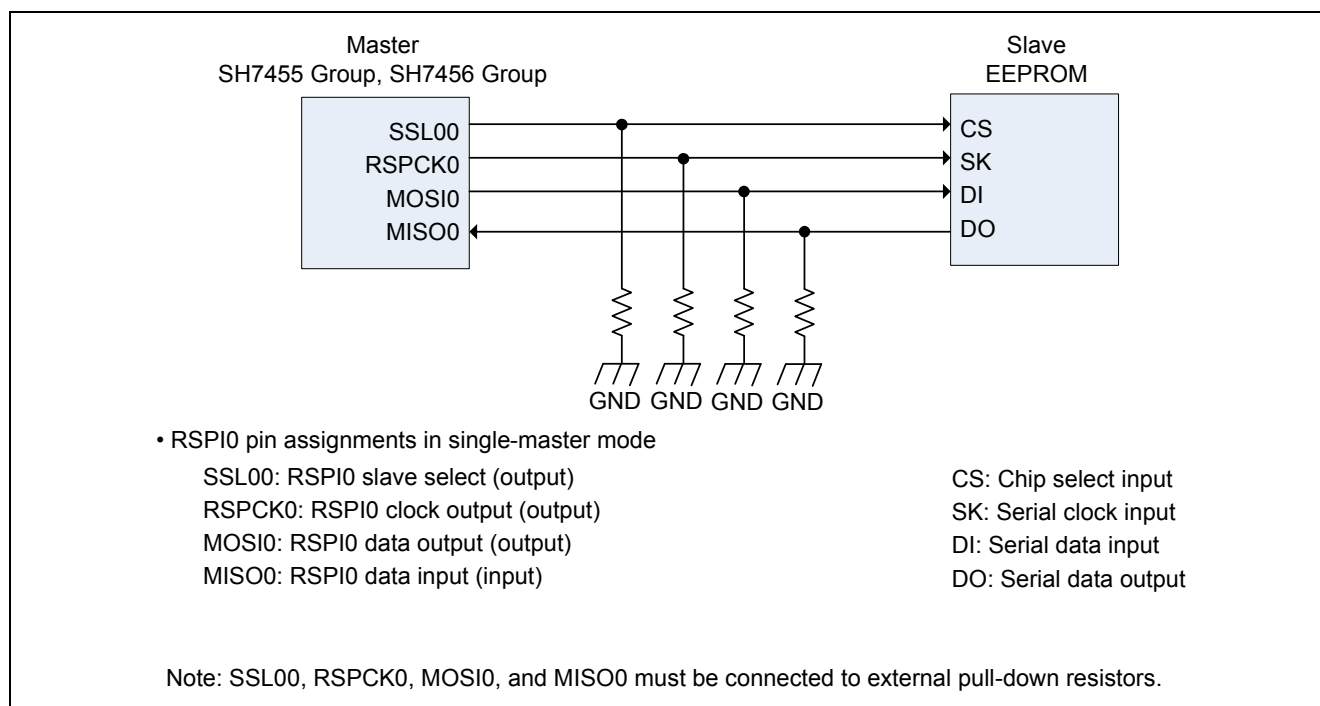

Figure 1.1 RSPI and EEPROM Connection Example
- The RSPI of the SH7455 Group and SH7456 Group is connected to the EEPROM via a four-wire serial interface. Figure 1.1 shows a connection example.